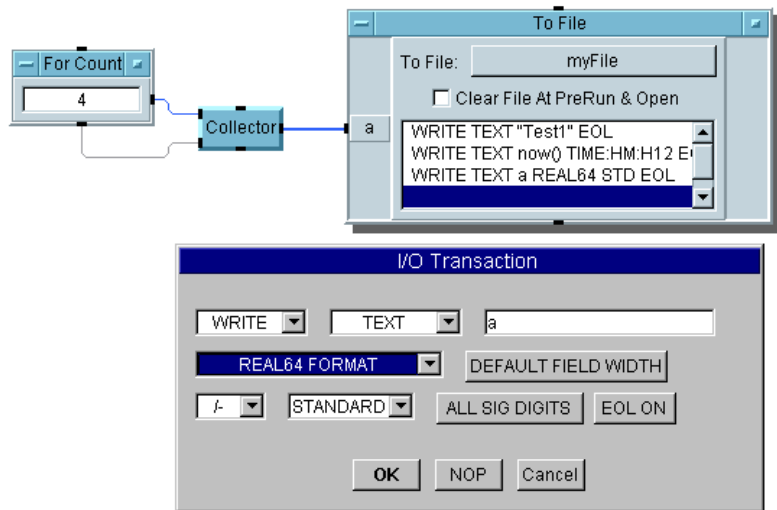

Figure 5-6. Storing Data Using the To File Object
5. Connect the output from the Collector to the input `a` of To File. The program should now look like Figure 5-6. (The configured I/O Transaction box is also displayed.)